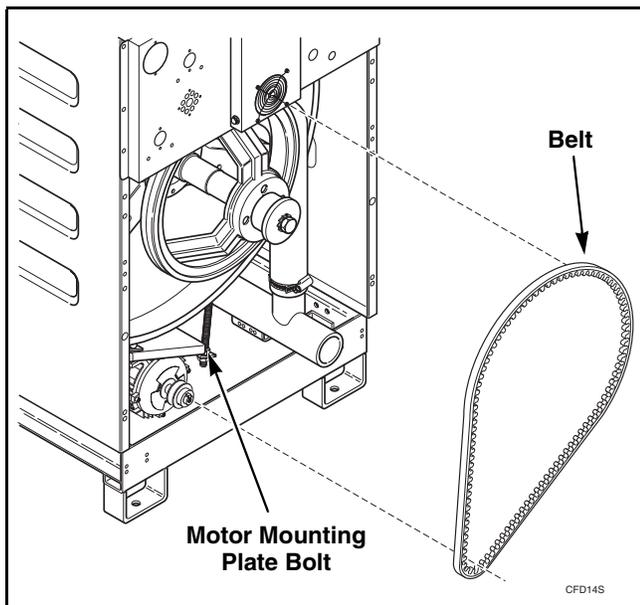

Figure 10
Refer to *Figure 10*.
- (1) Using a tension gauge, check the drive belt tension. Belt tension should be between 70 and 90 pounds (± 5 pounds). Set the initial belt tension toward the high end of the range.
- (2) To adjust the drive belt tension, loosen or tighten the nuts on the motor mounting plate bolt. Refer to *Figure 10*.